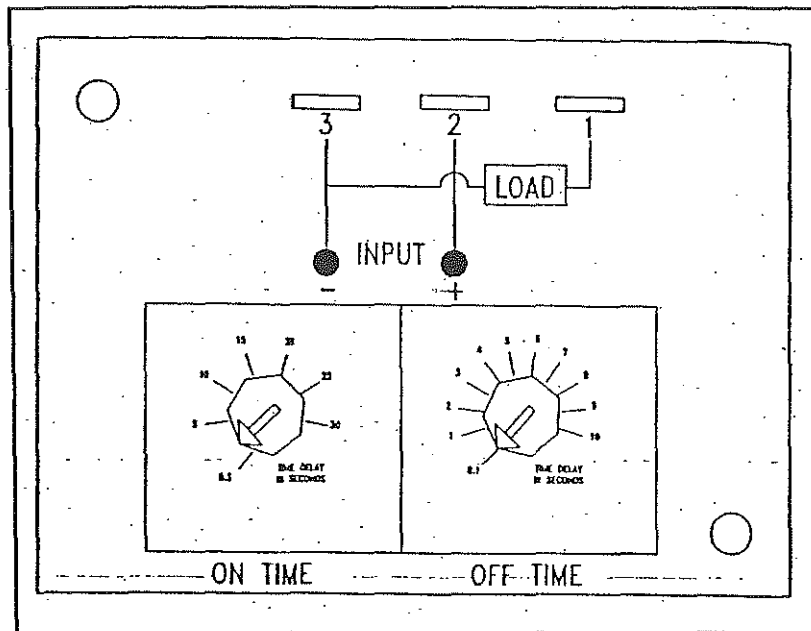

FIGURE 7-3 AUTO DRAIN SOLENOID TIMER
3. A timer that energizes the solenoid at preset intervals usually 15 minutes, (see Figure 7-3). This timer is located in the electric box.